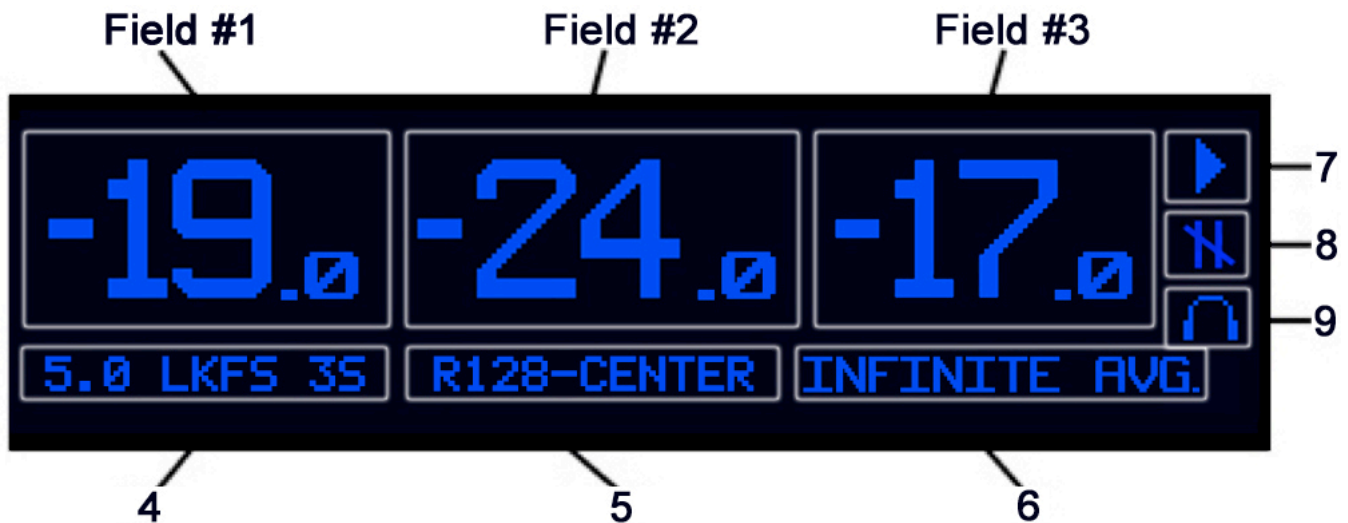

Figure 3. Standard View Home Screen on iLM8 - Live.
**Standard View** – displays the Max Short Loudness Average of either the Surround or Stereo Channels selectable from field #1, Short Term Average of the Center Channel in field #2, and the Infinite Average of either the Surround or Stereo Channels, True Peak, Max TP, and LRA selectable from field #3 in a large font. (See Figure 3)
When you power on iLM8 - Live or select 'STANDARD' as the Home Screen view the display should look similar to the one pictured in Figure 3. Pressing the HOME key again while on this screen enters Home Screen selection mode that allows quick access to key functions.